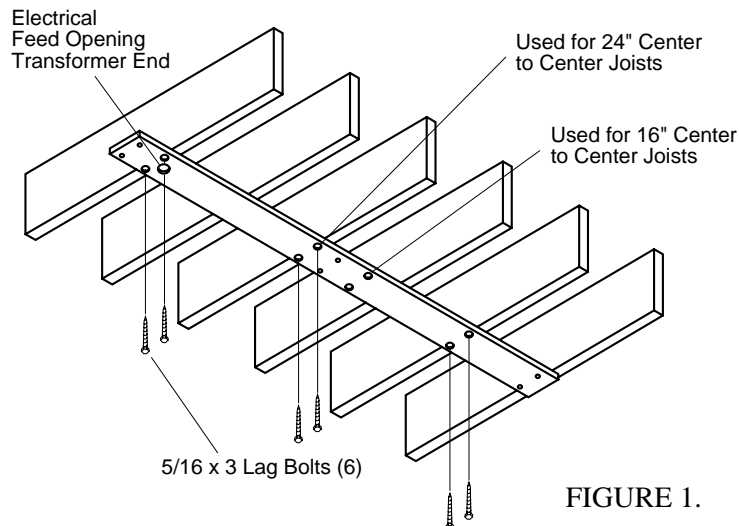

FIGURE 1.
- 1) In conventional ceilings with joists perpendicular to center line of light, attach pallet by at least 6 - 5/16 x 3" lag screws. Suitable holes are provided in pallet for most installations,utilizing 16" or 12" cc ceiling joists. For other spacings or locations, additional holes can be cut in pallet. (SEE FIGURE 1.)